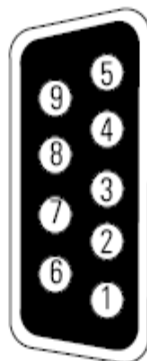

Figure 17 RS-232 Communication Port (DB-9 Connector)
3. For each replaced EBP, remove the cable retention clip covering the battery connector(s), as shown in Figure 17 on page 25. Retain the clips.
4. Plug the EBP cable(s) into the battery connector(s) as shown in Figure 17 on page 25. Up to four EBPs may be connected to the UPS.